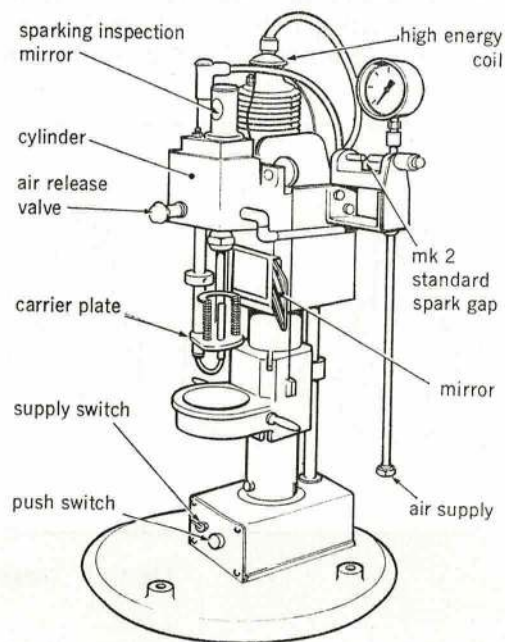

Fig 1.8.9 Spark and leak tester
35. A spark and leak tester for sparking plugs is illustrated at Fig 1.8.9.